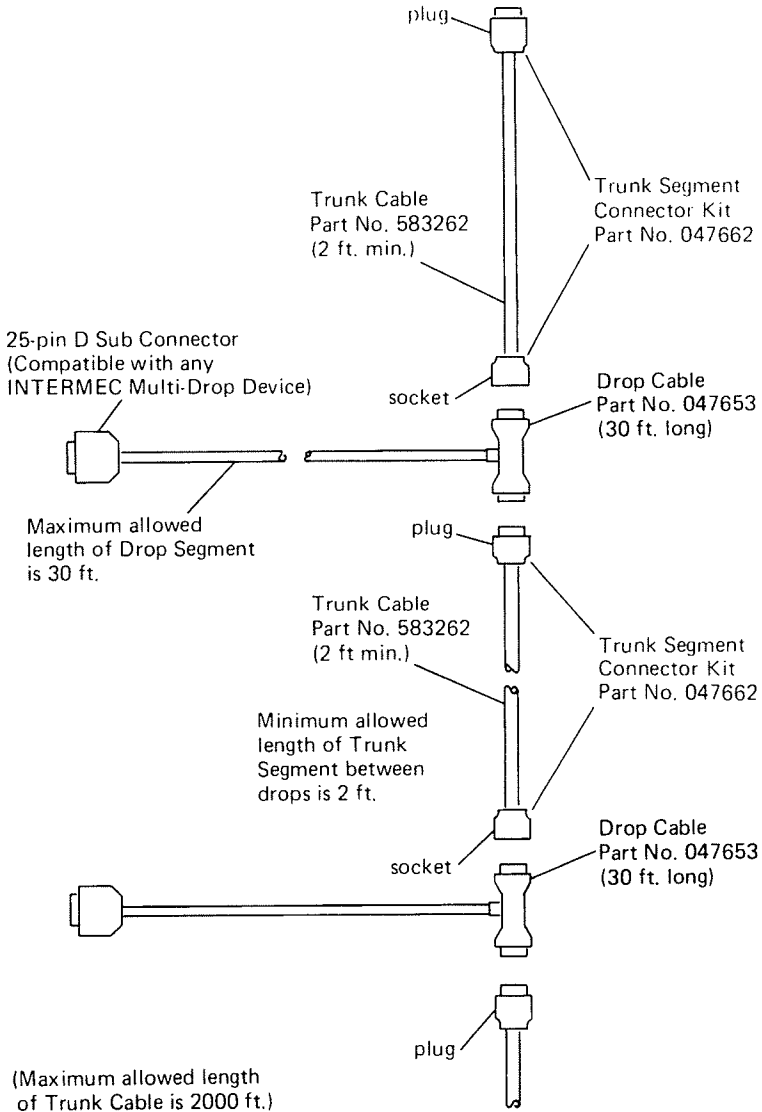
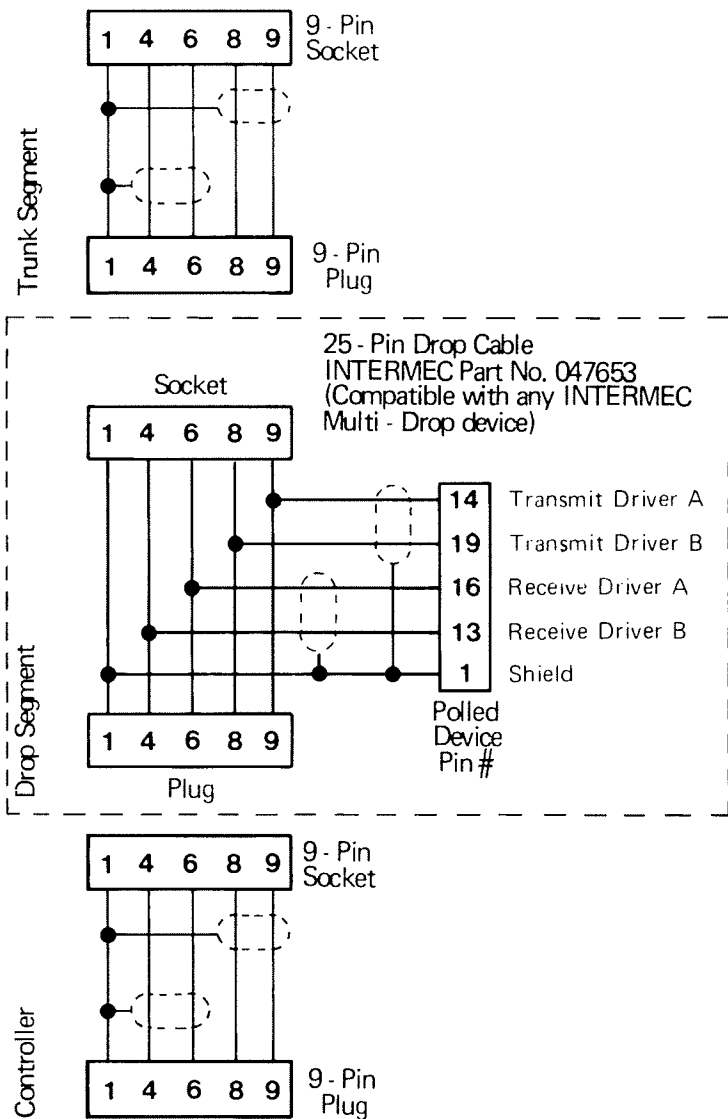

Figure 4-11
Figure 4-12
Available INTERMEC Cables: To save the time and expense of locating a source for custom cabling components, cables and components designed specifically for use in Multi-Drop systems may be obtained from INTERMEC. See Table 4-4 for a list of cables and components. See Figure 4-11 for an example of how INTERMEC cables would be used in an installation.
1. Measure and cut a length of Multi-Drop cable (INTERMEC Part No. 583262) a little longer than the distance from the controller to the first device drop site. The distance must be at least two feet as shown in see Figure 4-11.
2. Wire a 9-Pin, "D" style, sub-miniature plug to the controller end of the cable length and wire a 9-Pin, "D" Style, sub-miniature socket to the drop cable end of the cable. The cable ends must be wired as illustrated in Figure 4-12.
- Construct the connection using wiring information from Figure 4-12. Check that the length of the drop cable is sufficient to reach from the main trunk cable to the device, but not longer than 20 ft. Any excess cable length between the main trunk and the device should be bundled and tied.
- Construct the connection using wiring information from Figure 4-12. Check that the length of the drop cable is sufficient to reach from the main trunk cable to the device, but not longer than 20 ft. See Figure 4-11 for maximum and minimums lengths. Any excess cable length between the main trunk and the device should be bundled and tied.
All the devices supporting Multi-Drop protocol connect to the Multi-Drop cable using a 25-Pin, "D" Style, sub-miniature socket. The maximum length allowed between the device and the main trunk cable is 30 feet. The transmit and receive drivers are at all times. Figure 4-12 illustrates the pins used by this interface.